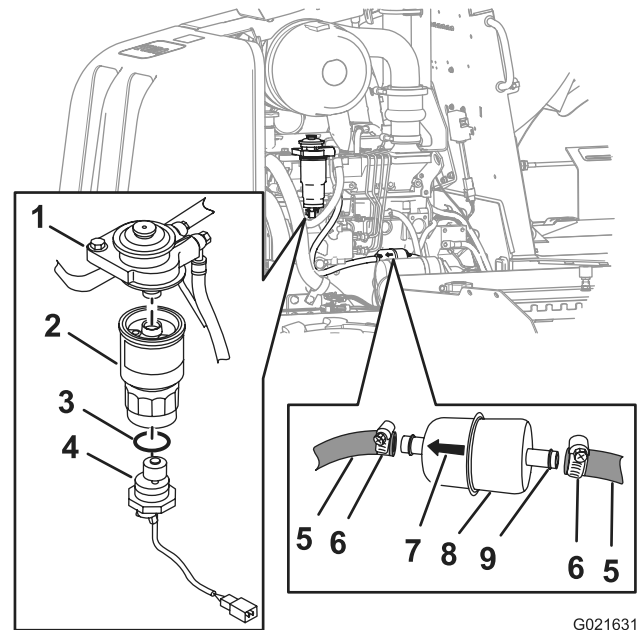

Figure 130
4. Loosen the hose clamps and separate the primary, fuel filter from the fuel hoses (Figure 130).
5. Align the new, primary, fuel filter to the hoses with the arrow printed on the filter pointing forward (Figure 130).
6. Slip the hoses over the hose fitting of the primary, fuel filter, and tighten the hose clamps (Figure 130).
- C. Firmly grasp the secondary-fuel-filter element, and rotate the water sensor counterclockwise, and remove the water sensor (Figure 130).
- D. Firmly grasp the secondary-fuel-filter element, and rotate it counterclockwise, and remove the filter from the filter adapter (Figure 130).
- B. Align the new secondary-filter element to the filter adapter (Figure 130).
- D. Align the new O-ring over the water sensor (Figure 130).
- E. Align the water sensor to the bottom of the secondary, fuel filter (Figure 130).
- F. Firmly grasp the secondary-filter element and rotate the water sensor clockwise until hand-tight (Figure 130).